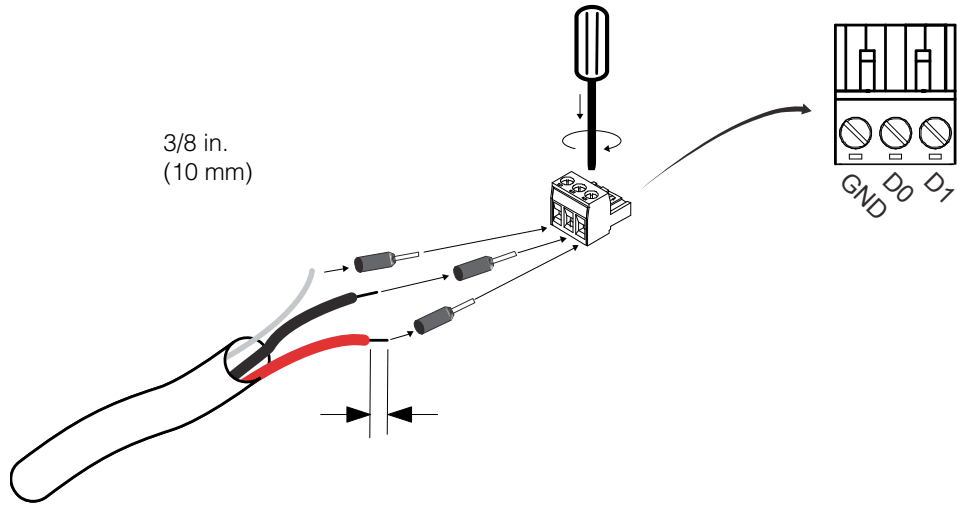

Figure 2-13 Wiring the RS 485 modbus connector
3. Insert the three wires into the connector terminals as shown in Figure 2-13.